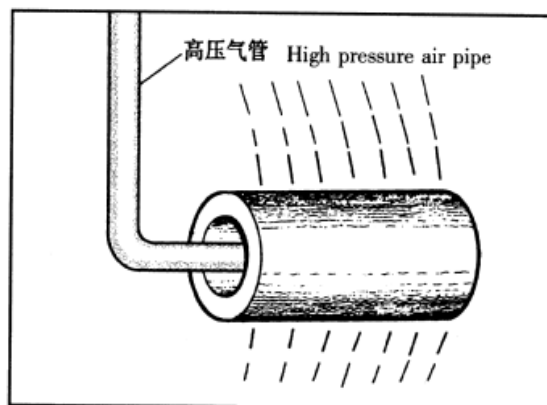

Figure 3-13 Filter element cleaning
- (1) Do not disassemble and clean the safety element;
- (2) It is prohibited to blow the outer filter element from outside in. If there is a great amount of dust on the outer surface of the filter element, flap gently with hands to let the dust fall off. The inner filter element (safety filter element) is now allowed to be disassembled and cleaned. When replacing the outer filter element, the safety filter element should be replaced also. As shown in figure 3-13.